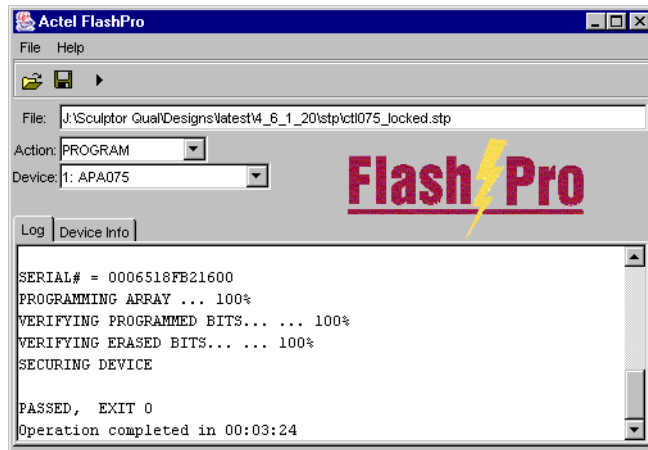

Figure 3-7. Successfully Programmed Device
**Note:** Do not interrupt the programming sequence, it may damage the device or programmer. The message 'Exit 0' indicates that the device has been successfully programmed, as shown in Figure 3-7.